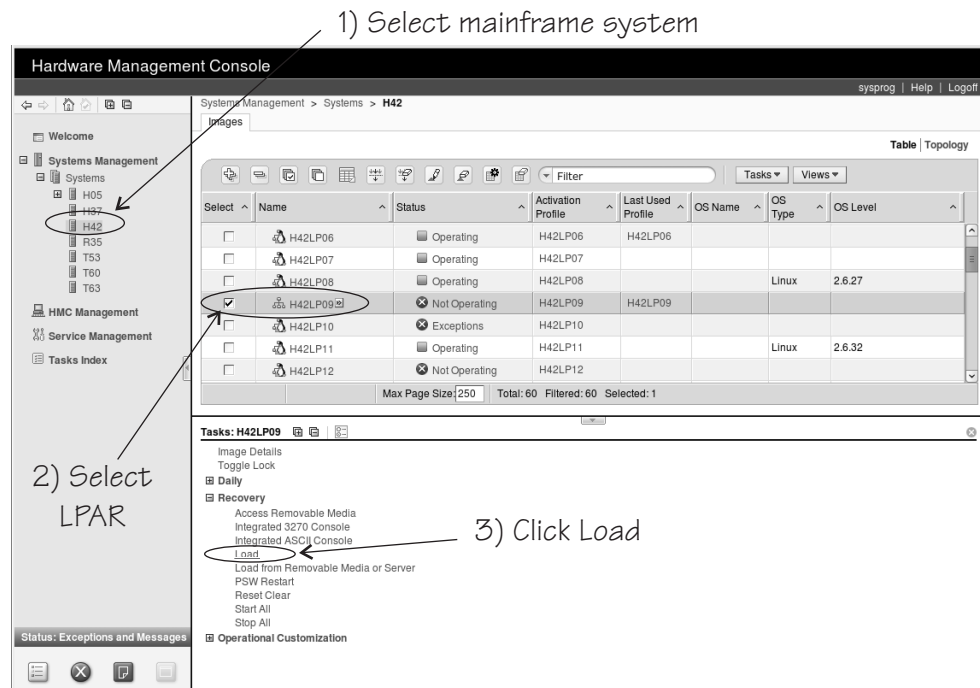

Figure 62. Load task on the HMC
3. In the **Tasks** area, expand **Recovery** and click **Load** (see Figure 62).